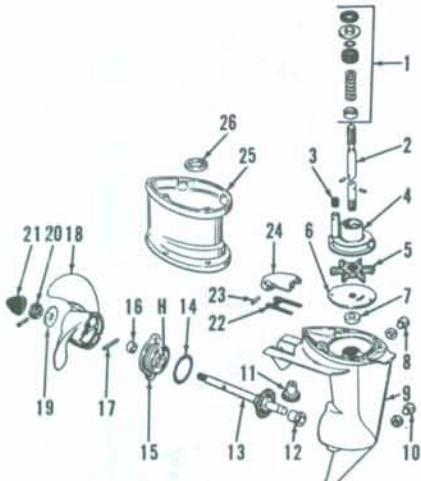
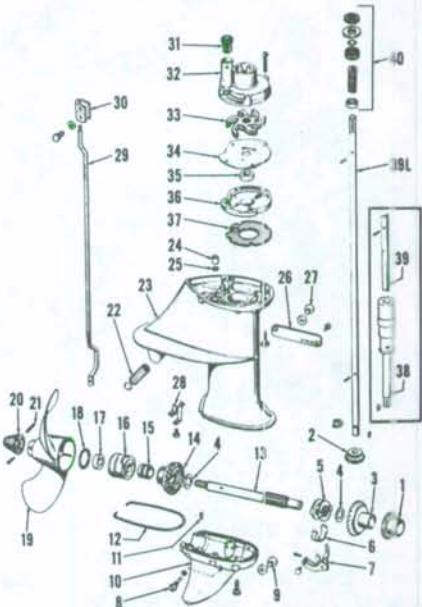

Fig. OM4-16—Exploded view of lower unit gearcase, water pump and associated parts used on 5 hp models.
Fig. OM4-17—Exploded view of lower unit gearcase, water pump and associated parts used on 6 hp models.
When cooling system problems are encountered, first check water inlet for plugging or partial stoppage. Check the thermostat on models so equipped. If the difficulty is not thus corrected, remove the lower unit gearcase as outlined in the appropriate section and check the condition of water pump, water passages, gaskets and sealing surfaces. Refer to Fig. OM4-16 or OM4-17. The main water inlet is located in the lower unit gearcase housing below the anti-cavitation plate; at sides of housing and ahead of propeller on 5 hp models, and below the exhaust outlet above and behind the propeller on 6 hp units.
The propeller drive pin (17—Fig. OM4-16) used on 5 hp models is $\frac{1}{8} \times 1\frac{1}{4}$ inch stainless steel. The drive pin (21—Fig. OM4-17 or OM4-18) used on 6 hp models is $\frac{1}{8} \times \frac{3}{8}$ inch stainless steel.
5 hp Models. Refer to Fig. OM4-16 for exploded view of gearcase and associated parts and to Fig. OM4-18 for exhaust housing and support assembly. Motor is equipped with full pivot steering and no neutral is provided for propeller shaft.
To remove the gearcase for service on the water pump or drive shaft, remove the four cap screws retaining gearcase housing (9—Fig. OM4-16) to exhaust housing and withdraw gearcase and drive shaft as an assembly. Water tube (8—Fig. OM4-18) will remain with exhaust housing. Withdraw crankcase lower seal components (1—Fig. OM4-16) from upper end of drive shaft to prevent loss. To renew the drive shaft, it is first necessary to unbolt water pump housing (4) from gearcase, then remove either of the two roll pins in driveshaft before pump housing can be withdrawn. Propeller shaft and gearcase head can be withdrawn from gearcase after removing retaining cap screw. Drive pinion (11) is free to fall from its bore after propeller shaft and gear is withdrawn. Front propeller shaft thrust bearing (12) is also free and may be withdrawn with shaft. The exhaust cover (24) is retained by rivet (23) and sealed by gasket (22) which is available in thicknesses of 1/32 and 3/64 inch for service installation. Exhaust cover need not be removed unless loose or damaged, or service is indicated. To remove the cover, file off peened portion and remove the rivet, then lift off the cover. When installing, use the thinnest gasket which will compress slightly when rivet holes are aligned. Coat both sides of the selected gasket with a non-hardening gasket cement and peen rivet slightly after installation. NOTE: Only one gasket should be installed.
6 hp Models. Refer to Fig. OM4-17 for an exploded view of gearcase and associated parts and to Fig. OM4-19 for an exploded view of exhaust housing and support assembly. Six horsepower models are equipped with a full gear shift.
The propeller shaft (13—Fig. OM4-17) and drive gears (3 & 14) can be removed after first draining lubricant from gear housing, removing pivot screw (8), then unbolting and removing gearcase lower housing (10).